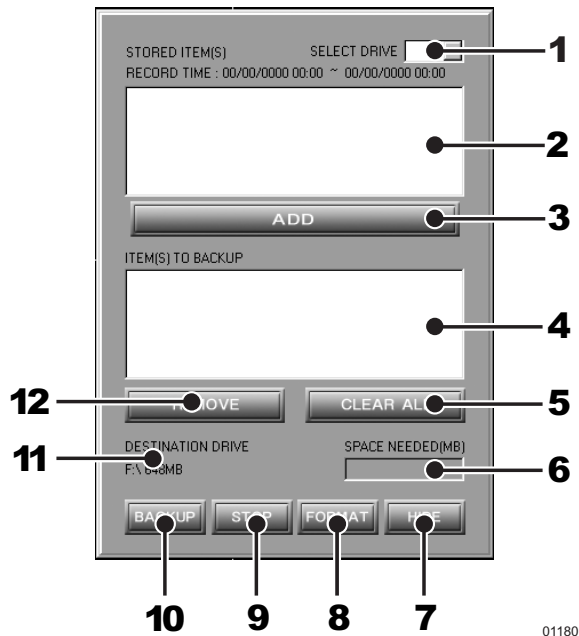

Figure 17. Backup (COPY) Window
- c. Select a drive from the SELECT DRIVE box. After several minutes a list of files will appear in the STORED ITEM(S) box.
- d. Use the left mouse button to select file/files to backup. Click the ADD button. The selected files appear in the ITEM(S) TO BACKUP box.
- e. To finish the backup process click the BACKUP button. An HDD indicator located at the bottom right-hand corner of the screen, labeled BACKUP, signifies that the files are being written to the CD-RW drive (refer to Figure 17).